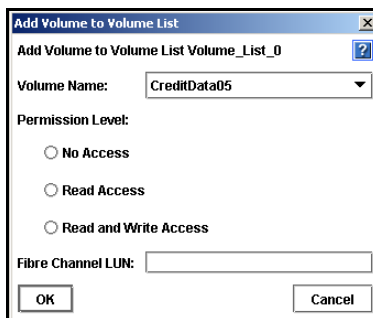

Figure 202. Adding a Volume to a Volume List
3. The Add Volume to Volume List window opens, shown in Figure 202.